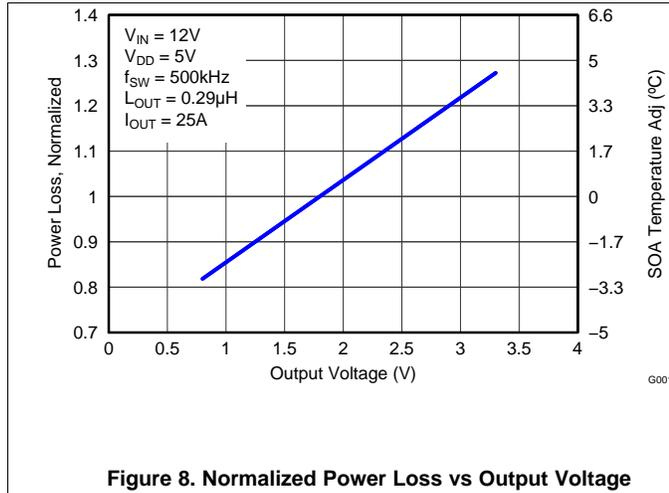

Figure 8. Normalized Power Loss vs Output Voltage
- Normalized Power Loss for output voltage \approx 1.11 (Figure 8)
- SOA adjustment for output voltage \approx 1.5°C (Figure 8)